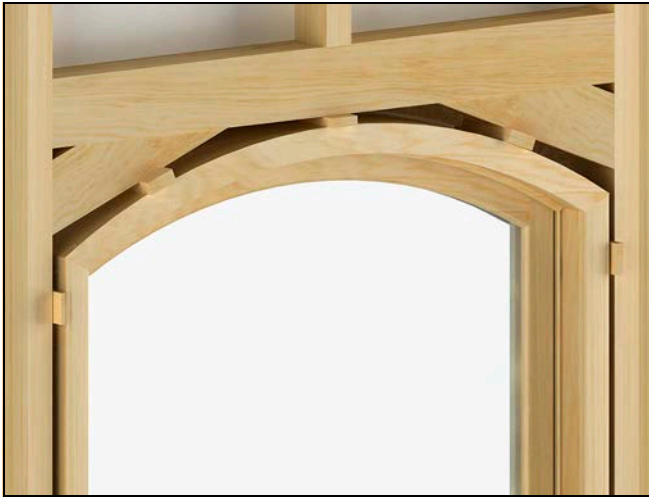

Figure 43
12. Shim and secure at the apex of the unit frame. See Figure 43.